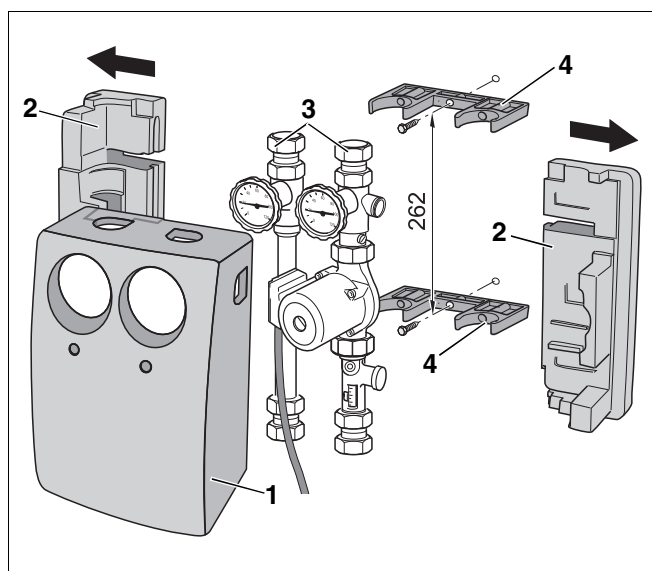

Fig. 6 Remove thermal insulation from the front
You need to open the solar pump station before you can install the wall bracket (Fig. 6, **Item 4**).
- ▶ Remove the thermal insulation from the front (Fig. 6, **Item 1**).
- ▶ Remove both the thermal insulation shells (Fig. 6, **Item 2**) from the left and right at the rear.
- ▶ Unclip the top and bottom of the two pump legs on the flow and return (Fig. 6, **Item 3**) from the wall bracket (Fig. 6, **Item 4**).
- ▶ Drill an 8 mm hole for each wall bracket (Fig. 6, **Item 4**) at a distance of 262 mm from each other and screw the wall bracket on.
- ▶ Click the two pump legs on the flow and return (Fig. 6, **Item 3**) back into place in the wall bracket.
- ▶ Push the two thermal insulation shells (Fig. 6, **Item 2**) on the left and right back in.